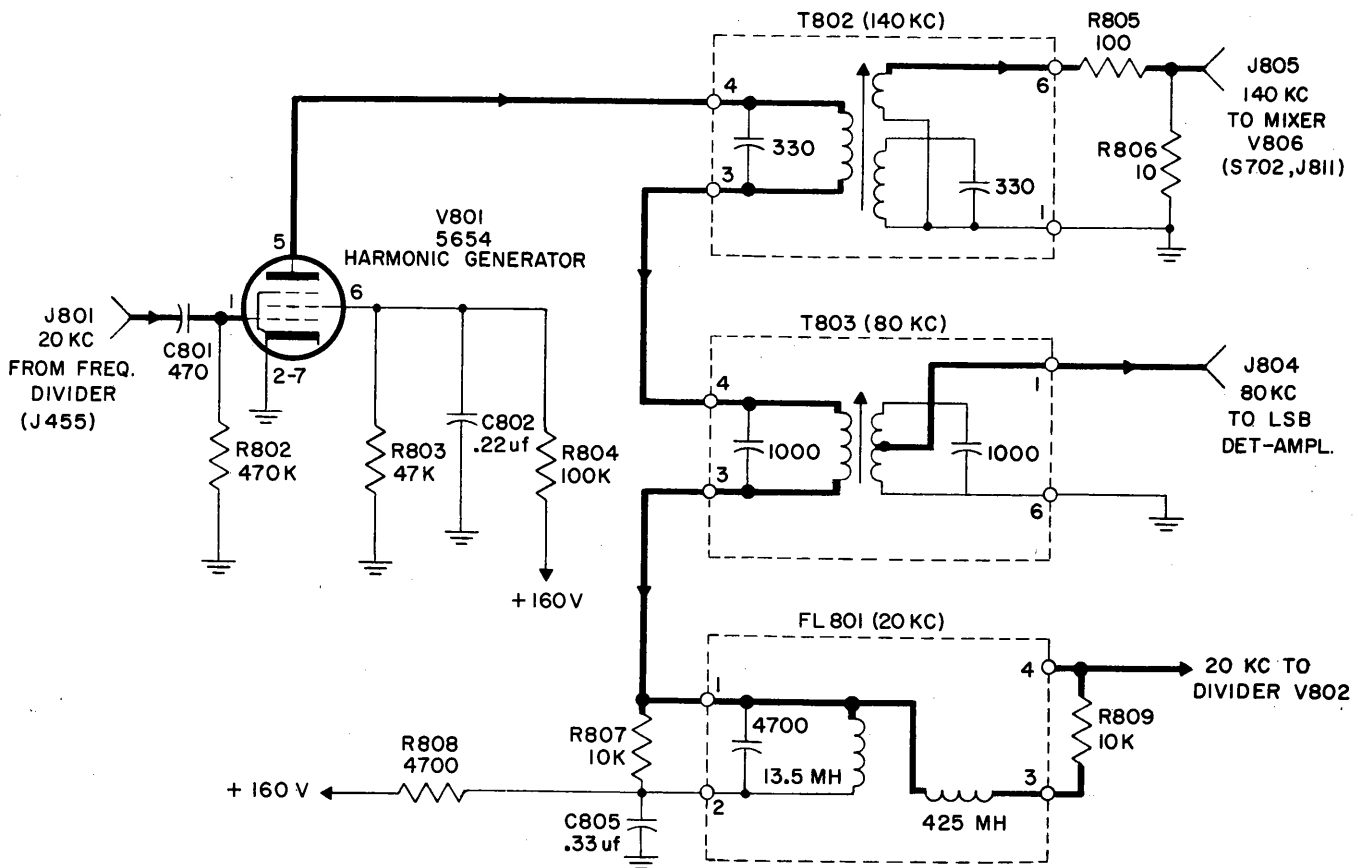

Figure 4-46. Harmonic Generator V801, Simplified Schematic Diagram
b. HARMONIC GENERATOR V801.—Figure 4-46 is a schematic diagram of harmonic generator V801, the function of which is described in subparagraph a. V801 gets its 20 kc signal from the frequency dividers by way of connector J801 and capacitor C801.